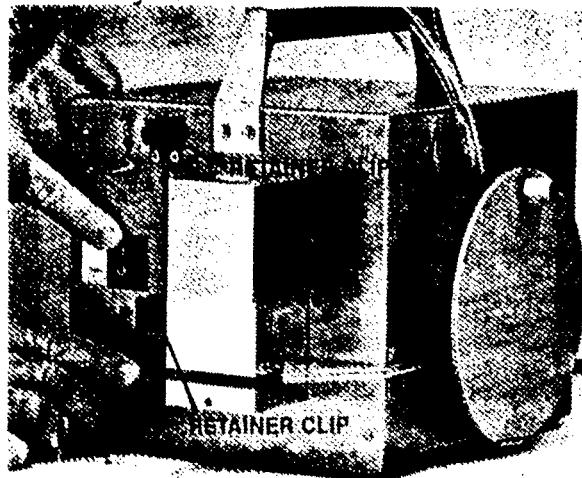

Figure 3
7. Turn power switch on front of unit to ON position. Place pinch clamp switch in UP position and insert small portion of irrigation tubing. Release pinch clamp switch to DOWN position to secure tubing. See figure 3.
8. Turn power switch OFF to prevent inadvertant operation of unit while completing the tubing connection. Place small irrigation tubing behind the two retainer clips. See figure 3.